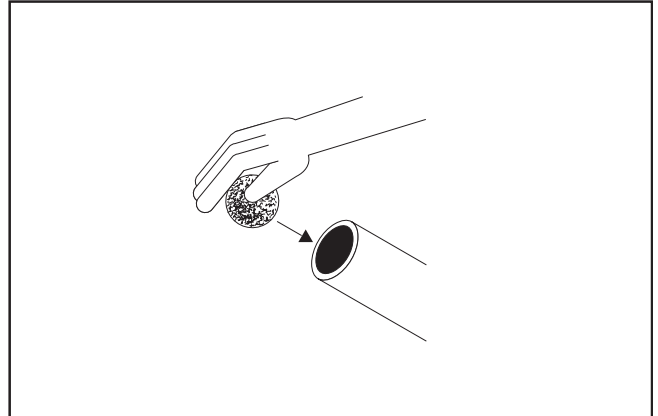

FIG.27
- Disconnect the pipes from GIOTTO and insert a washing sponge into the piping (FIG.27).